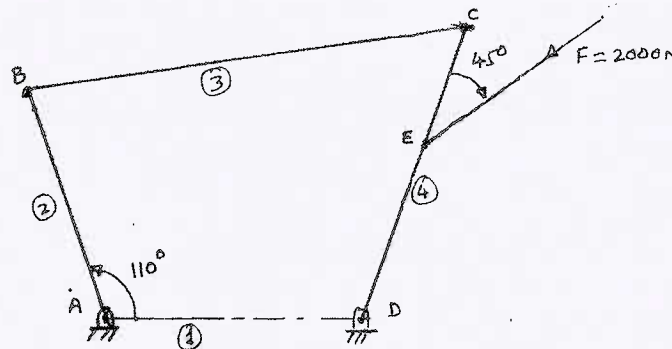

Fig.Q1(b)
- b. A four bar mechanism shown in Fig.Q1(b) is acted by a force  $F = 2000\text{ N}$ . Calculate the required torque on link AB ( $T_2$ ) for equilibrium of the mechanism. Given  $AB = 200\text{ mm}$ ,  $BC = 370\text{ mm}$ ,  $DC = 250\text{ mm}$ ,  $AD = 215\text{ mm}$ ,  $CE = 100\text{ mm}$ ,  $\angle DAB = 110^\circ$ ,  $\angle CEF = 45^\circ$ . (14 Marks)